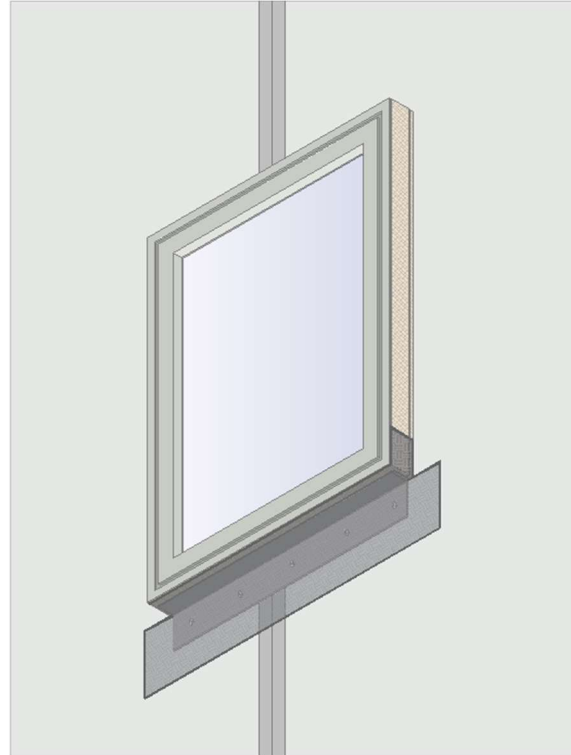

Figure 8
- All edges should be bonded and consolidated as shown in Figure 8.